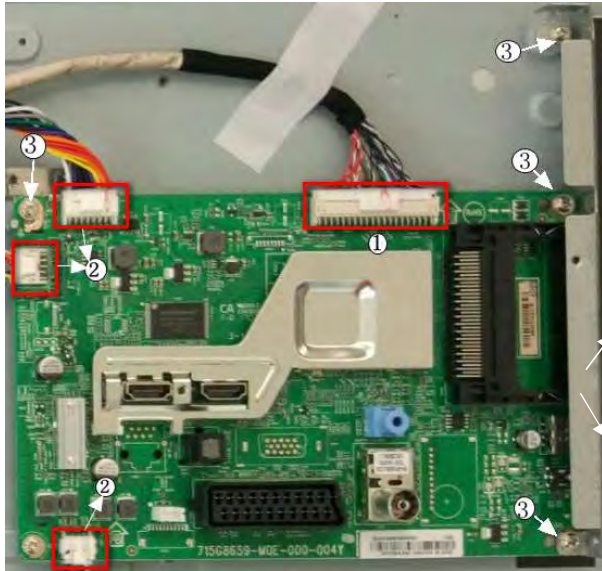

Figure 3-15 SSB
3. Remove all the fixation screws from the SSB [3]. Refer to Figure 3-15 for details.